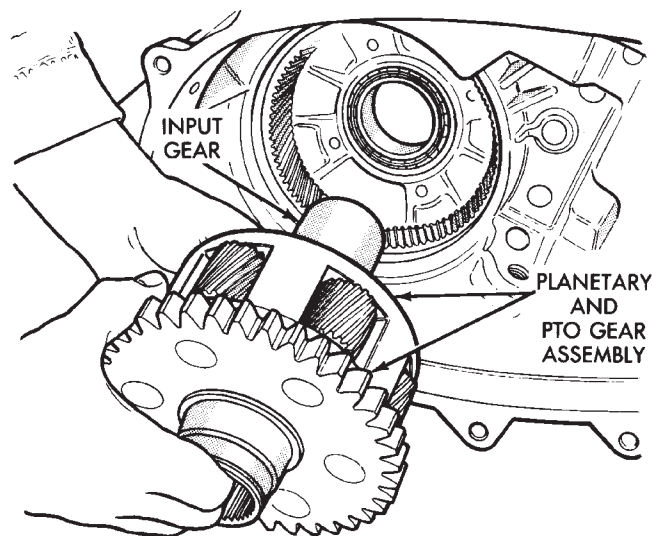

Fig. 41 Input Gear And Planetary Assembly Removal
(5) Remove input gear and planetary/PTO gear as assembly (Fig. 41).